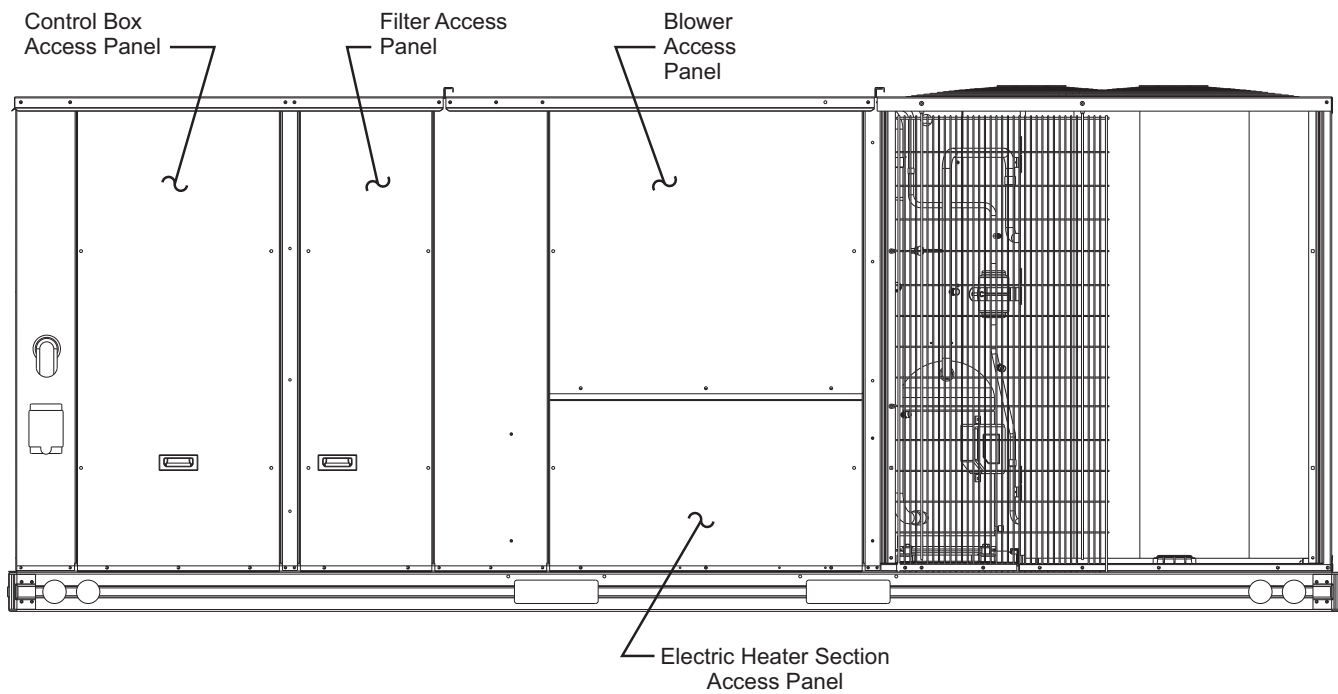

Fig. 47 — Typical Unit – Access Panel Locations
2. Remove electric heater section access panel, control box access panel, filter access panel, and blower access panel from base rooftop unit. (See Fig. 47.)